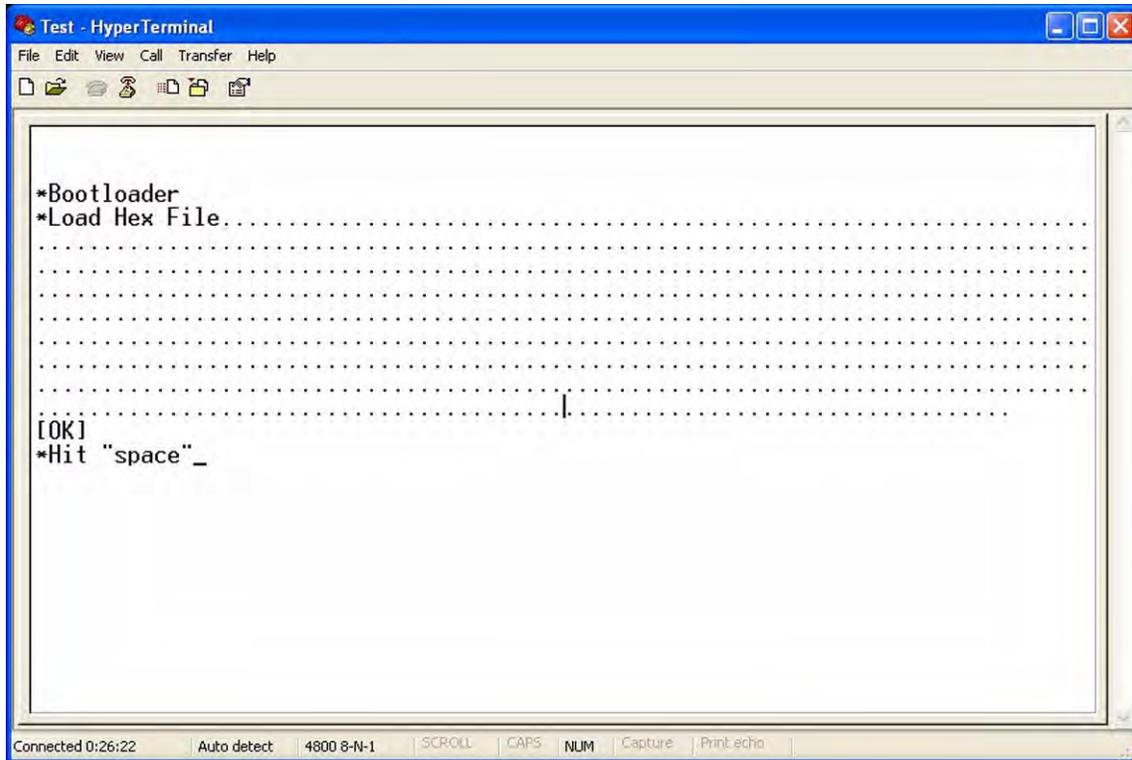

Figure 10. Message Displayed in HyperTerminal Indicating Flash Write Operation Completed
7. Wait for the MCU to finish writing to Flash memory, after which HyperTerminal displays the message shown in Figure 10.